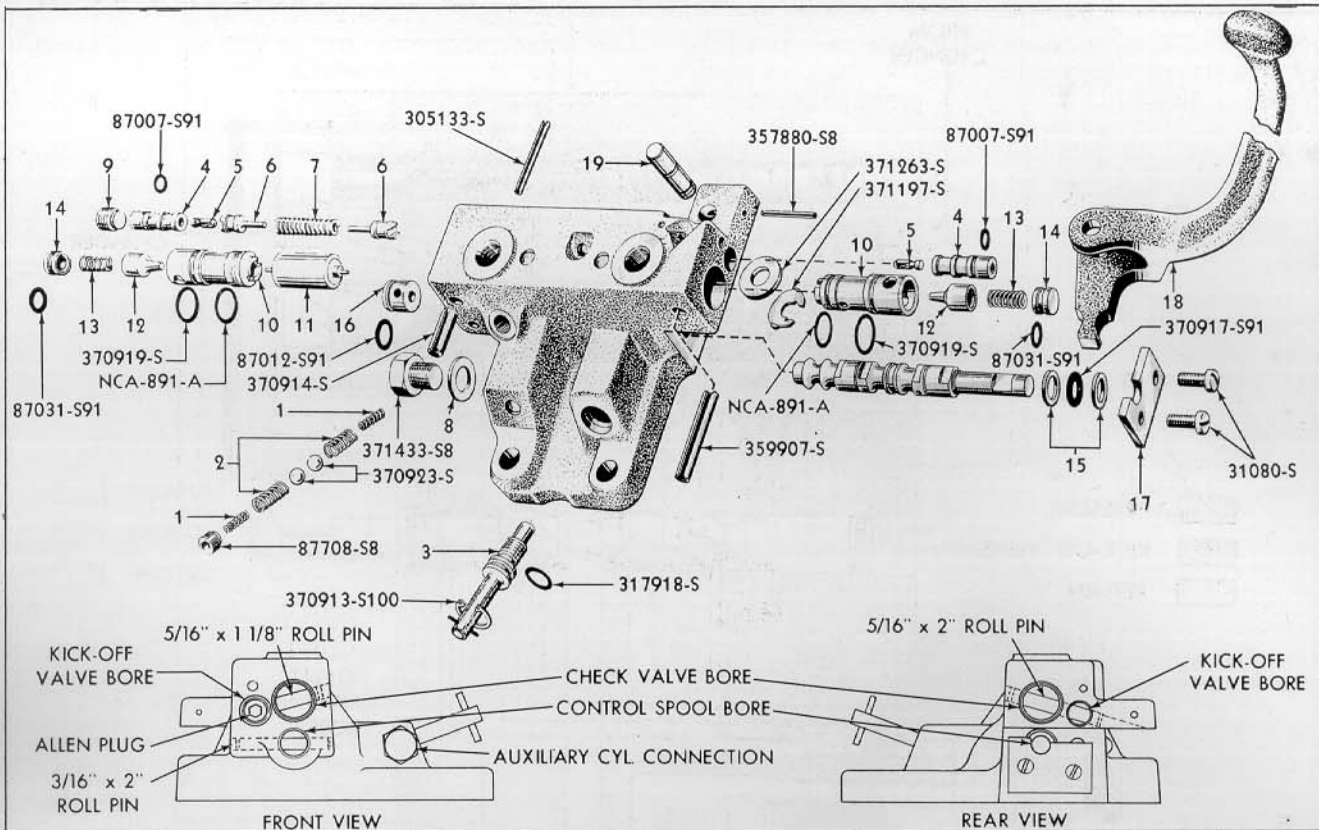

Figure 6
**Parts Identification:** Prior to servicing the valve assembly, study the exploded view, plus the front and rear end views shown in Figure 6. These illustrations will help to identify the components and to orient them as to location in their respective bores.
The kick-off valve components are contained in a bore that runs the length of the valve body. These parts are retained in the bore by an adjusting screw at one end of the bore and a roll pin at the opposite end. See valve "end" views, Figure 6.
**NOTE:** If the check valve (See Figure 6) are also going to be serviced, do not install the kick-off valve components at this time. Service the check valves first (See Page 12 for these instructions).
Components of the two check valves are contained in a bore that runs the length of the valve body and are retained by a roll pin at each end of the bore. See valve end views, Figure 6.
2. Drive the 5/16" x 1-1/8" roll pin clear of the check valve bore at the front end of the remote valve body. See Figure 6.
3. Drive the 5/16" x 2" roll pin clear of the check valve bore at the rear end of the remote valve body. See Figures 6 and 7.